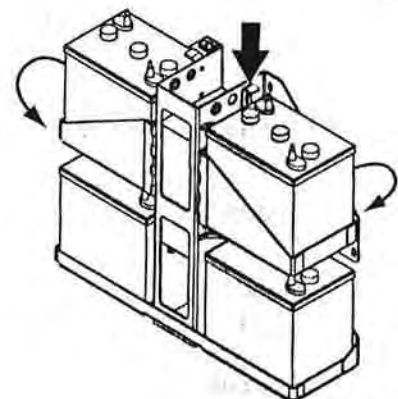

FIGURE 12. BATTERY CONNECTOR
1. Disconnect the battery so that the connector is completely free. See **FIGURE 12**.